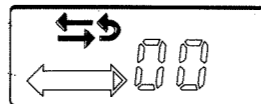
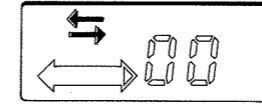
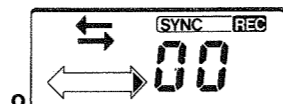

Fig. 1-3d
Fig. 1-3h
Fig. 1-3n
- Select playback of the side which is being played, followed immediately by the other side, by selecting the single-reverse mode (Fig. 1-3d). The recorder will play back both sides and will then automatically stop.
single-reverse or continuous-reverse mode. In other words, the display should be as in Figs. 1-3h or 1-3c and not Figs. 1-3d and 1-3e.
8. Press key ②④ "PLAY" to start recording. The word "PLAY" will light up on the display (Fig. 1-3n). The first side is now used for the recording. At the end of the tape the recorder will automatically stop. If you want to continue recording on the other side immediately after the first side, place the recorder in the single-reverse mode with key ②② (Fig. 1-3d).
2. Press key (31) "REC MODE" to select synchronous recording (Fig. 1-3n).
4. Now press key (35) "PLAY" of the Compact Disc player. The player begins playback and the recorder simultaneously starts recording.
5. By pressing key (39) "STOP" of the Compact Disc player not only the Compact Disc player but also the recorder is stopped. The latter goes into the pause position (the word "PLAY" flashes!). This also happens at the end of the Compact Disc if the Compact Disc player stops automatically. In both cases the recorder remains ready for a subsequent recording. If you wish, you can change the Compact Disc.
6. Using key (36) "PAUSE" of the Compact Disc player also causes the recorder to pause.
7. When you stop recording, you have to stop the recorder with its own stop key (23). The Compact Disc player continues playback, however.